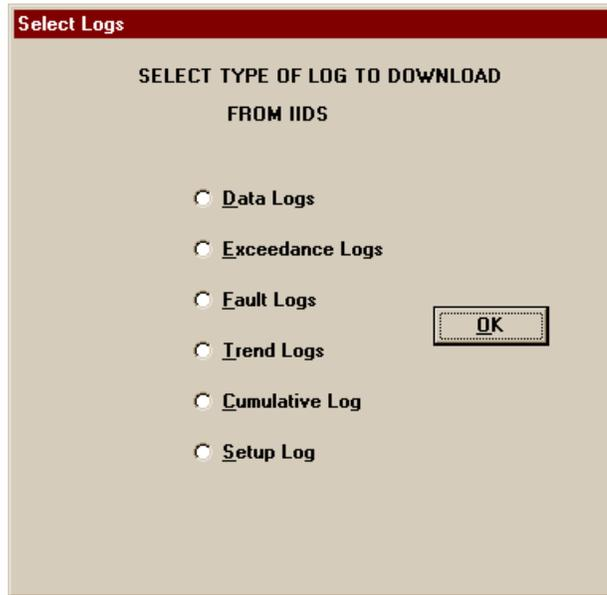

Figure 19. Select Specific Log Type Screen
- c. Select the type of file to download; Data, Exceedence, Fault, Trend, Cumulative or Setup, and click on the "Ok" control button (refer to Figure 19).